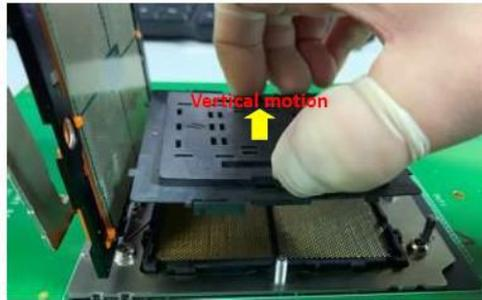

Figure 18-2
- (2) Carefully remove the PnP Cap in a vertical motion only. (Fig.18-2)